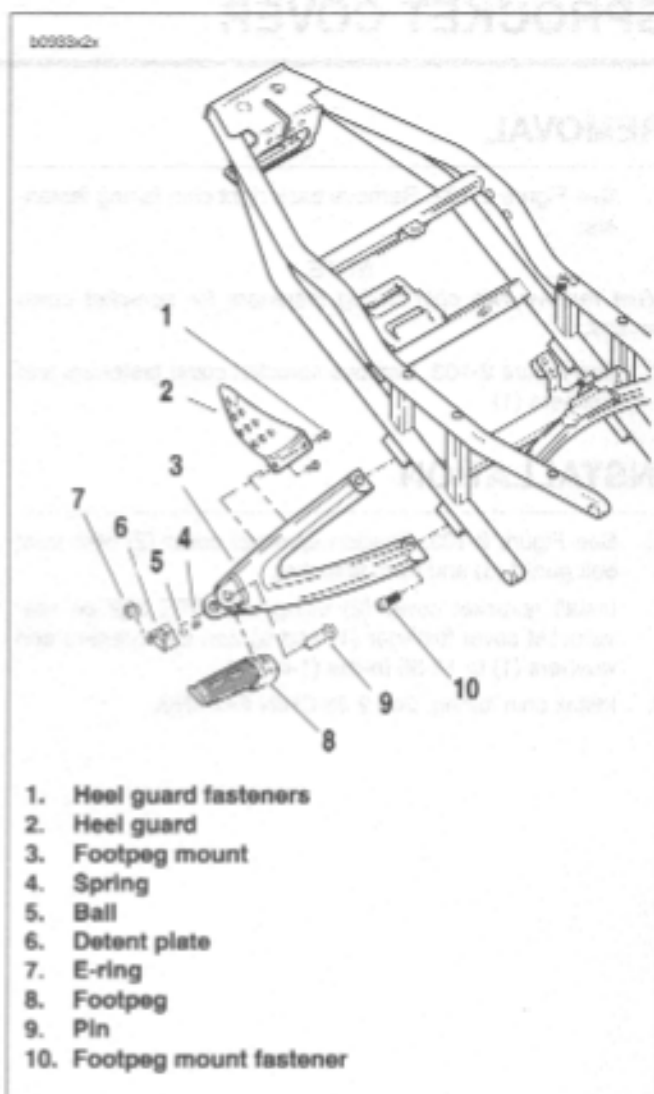

Figure 2-101. Passenger Footpeg, Mount and Heel Guard Assembly
1. See Figure 2-101. Remove e-ring (7).
2. Remove footpeg pin (9).
3. Remove footpeg (8), detent plate (6), ball (5) and spring (4).
1. See Figure 2-101. Remove heel guard fasteners (1).
2. Remove heel guard (2).
1. See Figure 2-101. Remove footpeg mount fasteners (10).
2. Remove footpeg mount (3).
1. See Figure 2-101. Position footpeg (8), detent plate (6), ball (5), and spring (4) on to footpeg mount (3).
2. Install footpeg pin (9).
3. Install e-ring (7).
1. See Figure 2-101. Position heel guard (2) onto footpeg mounts (3).
2. Install heel guard (2). Tightening heel guard fasteners to 48-72 in-lbs (5-8 Nm).
1. See Figure 2-101. Position footpeg mount (3) onto tail frame.
2. Install footpeg mount (3). Using LOCTITE 272 tighten, fasteners (10) to 25-28 ft-lbs (34-38 Nm).